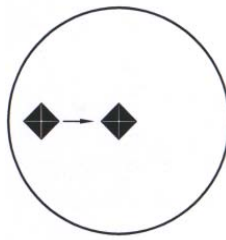

Fig 6-11 Image is on the left side of the center
3. The image is on the left side of the center. Refer to Figure 6-11.